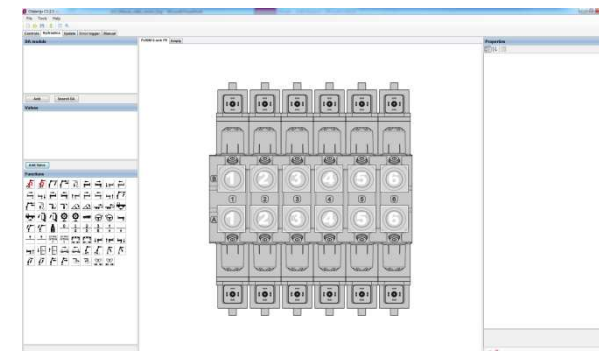

Figure 57. The valve block is placed in the working area.
4. Release the mouse button and the valve block is placed on the *working area*, see Figure 57.